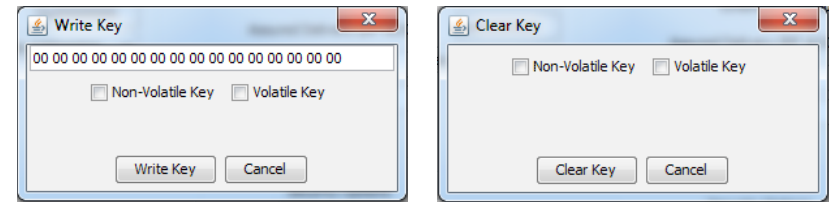

Figure 12: The Master Development System Software Write Key and Clear Key Windows
- Clicking the Write Key button opens a window where the 128-bit AES key can be entered (Figure 12).
- Clicking the Clear Key button opens a window where the key can be cleared (Figure 12).